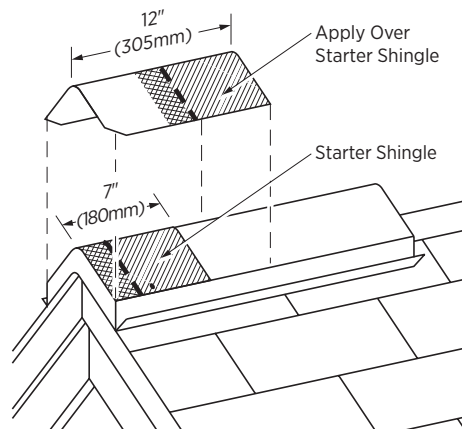

Figure 11-13: Apply a full cap shingle over the starter piece, flush with the bottom and side edges of the starter.
3. Apply a full cap shingle over the starter (Figure 11-13), and place fasteners at 5-5/8" (6-1/4" for metric) up from the exposed bottom edge and 1" in from each side. Nails must not be exposed on the finished roof. All nail heads must be driven straight and must not cut into the shingle surface.